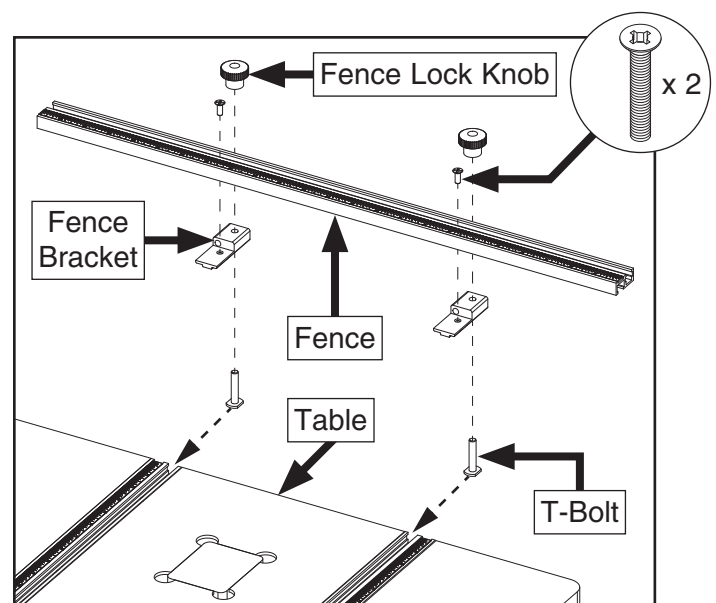

Figure 19. Assembling fence locks on fence.
1. Insert (1) $\frac{1}{4}$ "-20 x $\frac{1}{4}$ " T-bolt through hole in each fence bracket and secure with (1) fence lock knob (see **Figure 19**).
2. Secure each fence bracket to fence using (1) 10-24 x $\frac{1}{2}$ " flat head screw (see **Figure 19**).
3. Insert T-bolts into T-slots on table (see **Figure 19**).